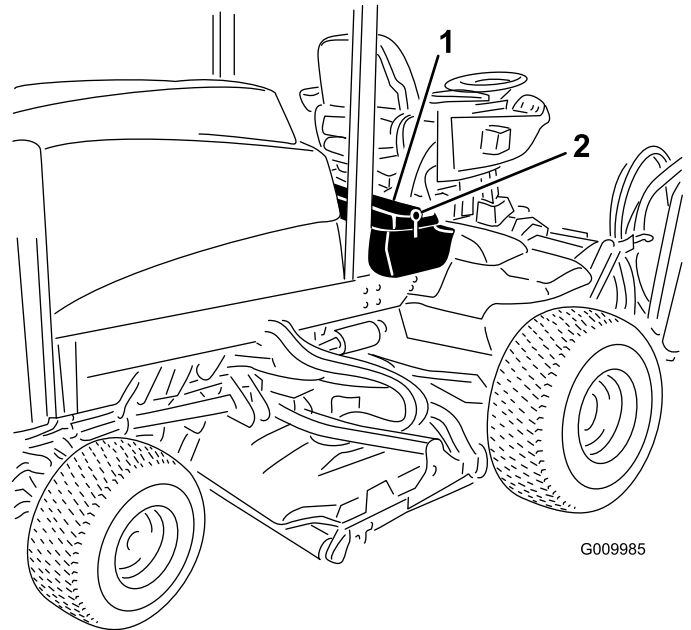

Figure 65
1. Unlatch and raise the operator's console panel (Figure 65).